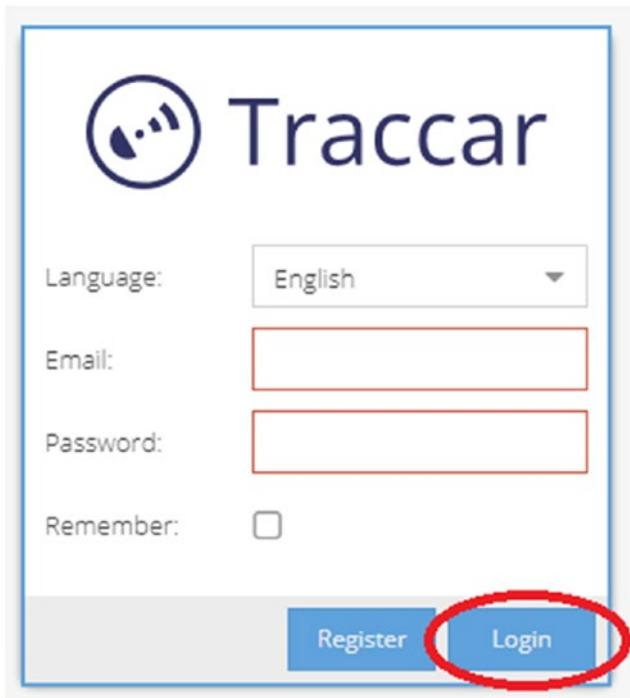

Figure 8-56. Log in to Traccar with credentials
- Once registered, type in the e-mail and password again. Then click the Login button (Figure 8-56).